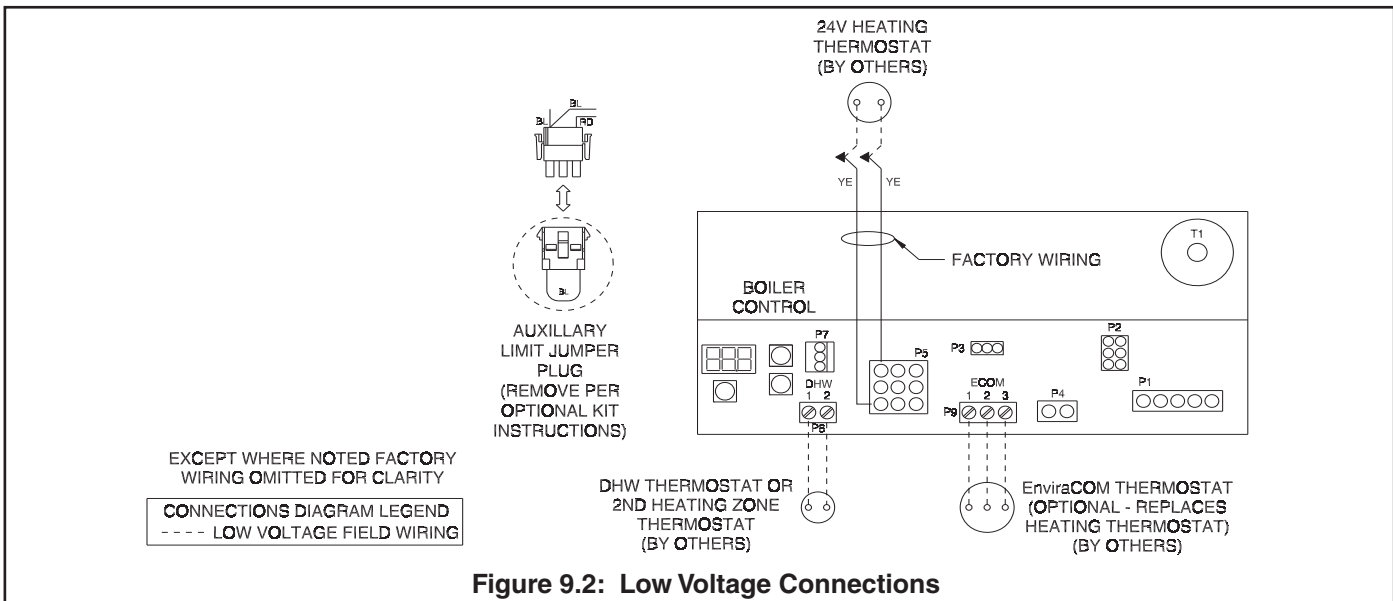

Figure 9.2: Low Voltage Connections
- Wire additional field supplied safety limits, such as low water cut-offs and temperature limit devices, so as to break the 120V power supply to the boiler. Alternatively, some 24V safety limits can be wired in place of the limit jumper shown in Figure 9.2. Do not alter the boiler's factory wiring when adding a field supplied limit device.
NOTICE: This boiler is equipped with a listed high water temperature limit function. This limit provides boiler shutdown in the event the boiler water temperature exceeds the set point of the limit control. Certain Local Codes require an additional water temperature limit. If necessary, install an additional water temperature limit (P/N 106056-01) or equivalent Honeywell L4006 Aquastat. Wire as indicated in Figure 9.2.
- a. Heating Circulator - Pumps water upon a call for heat (CH) from a heating thermostat connected to the leads shown in Figure 9.2 or from an EnviraCom thermostat.
- b. DHW Circulator - Pumps boiler water to an indirect water heater upon a call for domestic hot water (DHW) from the DHW thermostat terminals shown in Figure 9.2. This output can also be used for a second space heating zone (See Section 11 for additional information).
2. Low Voltage Connections – Low voltage field connections are located as shown in Figure 9.2 and are as follows:
- a. Heating (CH) Thermostat - Connect to a 24 volt thermostat or other “dry contacts” (such as a zone panel end switch) that close upon a call for heat. Follow thermostat manufacturer's instructions. To insure proper thermostat operation, avoid installation in areas of poor air circulation, hot spots (near any heat source or in direct sunlight), cold spots (outside walls, walls adjacent to unheated areas, locations subject to drafts). Provide Class II circuit between thermostat (or zone controls) and boiler.
- c. Auxiliary Limit Jumper - Used to connect auxiliary limit device. If no such devices are installed, the factory supplied jumper shown in Figures 9.2 and 9.3 must be installed for boiler to operate.